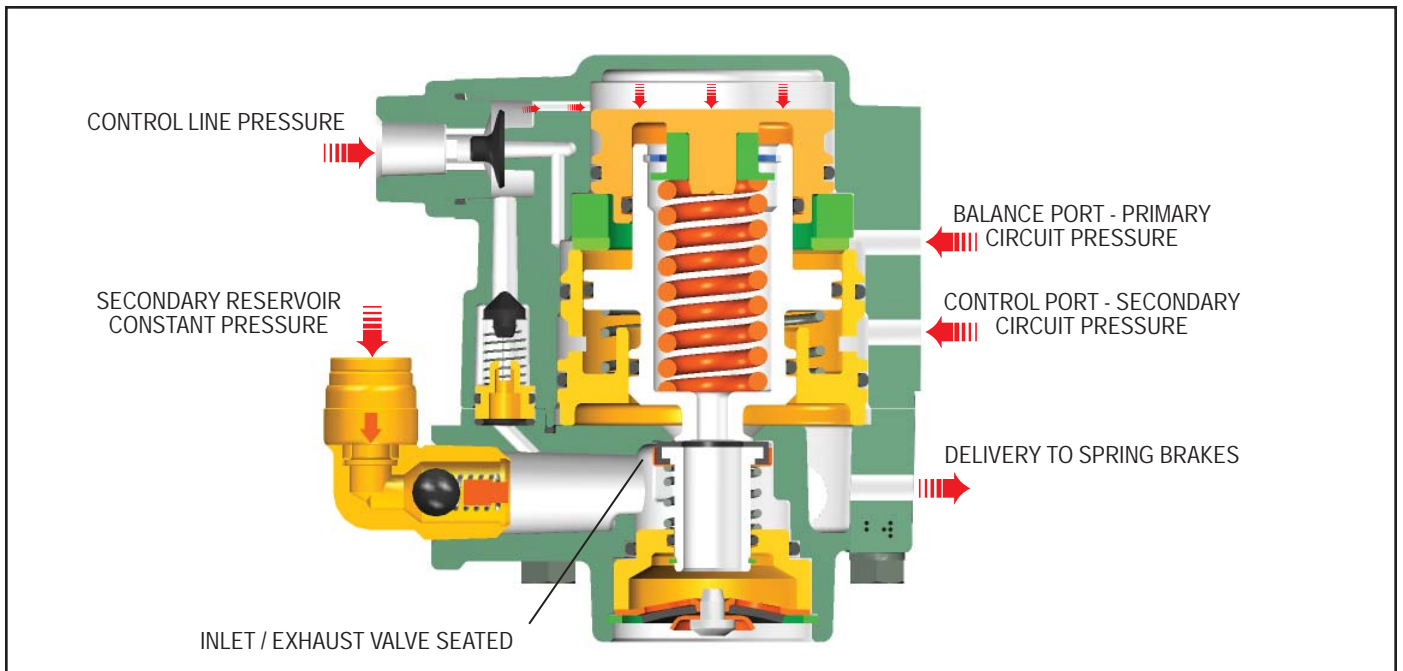

FIGURE 7 - NORMAL SERVICE APPLICATION
**NORMAL SERVICE APPLICATION (FIGURE 7)**